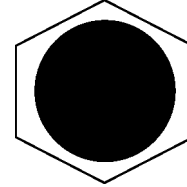

Figure 57. Emergency Stop Button
1. To stop the engine in the event of an emergency, **PUSH** the emergency stop button (Figure 57) inward. This button is located on the engine operating panel, see Figure 7.